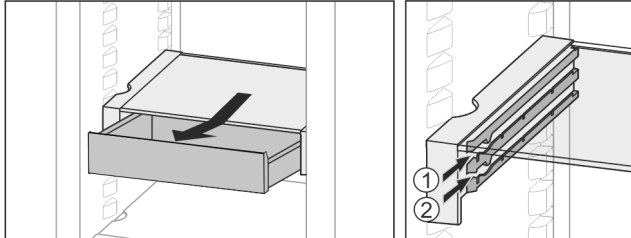

Fig. 22
- ▶ Slide in at any height Fig. 22 (1) or Fig. 22 (2).